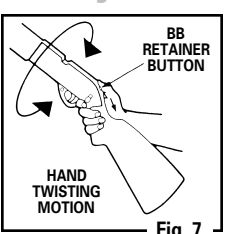

Fig. 7
- Pull the BB retainer button back (Fig. 7).